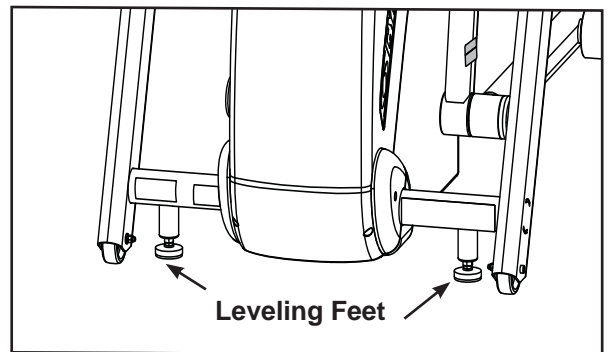

Figure 12
- A. Confirm that the unit is on a level surface. If it is not, use a 9/16" open-end wrench to adjust the leveling feet up or down. See Figure 12.